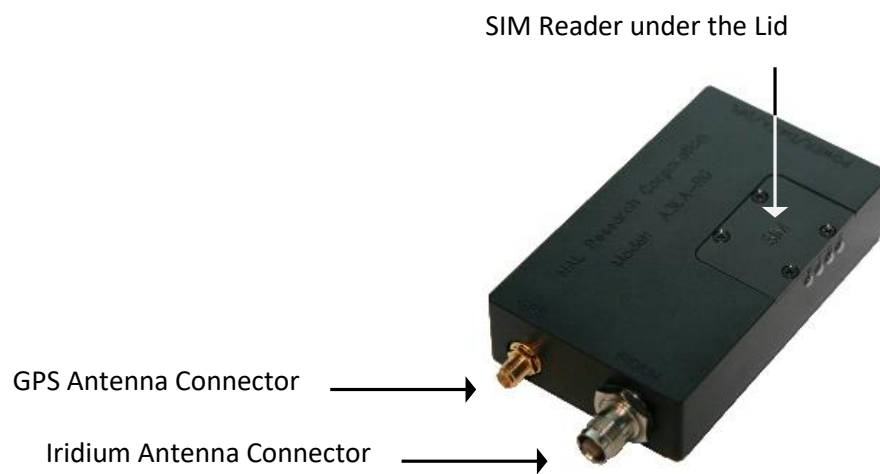

Figure 6: Location of the SIM Reader
The A3LA-RG modem uses a single TNC female 50-ohm connector for both transmit and receive (see **Figure 6**). Cable loss between the modem and the antenna is critical and must be kept less than 3 dB at the operating frequency of 1616 to 1626.5 MHz. The minimum link margin of 12 dB must also be maintained. General Radio Frequency (RF) parameters are listed in Table 2 below.
The A3LA-RG modem uses an SMA female connector for the GPS antenna (see **Figure 6**). Any active antenna requiring a bias voltage of approximately 3.3 VDC with <50 mA is appropriate. NAL Research offers a magnetic mount GPS antenna as well as dual Iridium/GPS antenna for use with the A3LA-RG. For low-cost and applications where small form-factor and light-weight are required, NAL Research highly recommends model SAF7352-IG (see **Figure 5**).
The A3LA-RG modem contains an integrated SIM reader. The modem uses and requires an Iridium SIM chip for operation. The SIM chip is inserted into the opening located at the top of the modem, as shown in **Figure 6**. A plastic locking mechanism holds the SIM in place. Place the SIM chip (facing down) into the SIM reader's bracket. Ensure that the cut-off on the SIM chip aligns with the SIM reader.